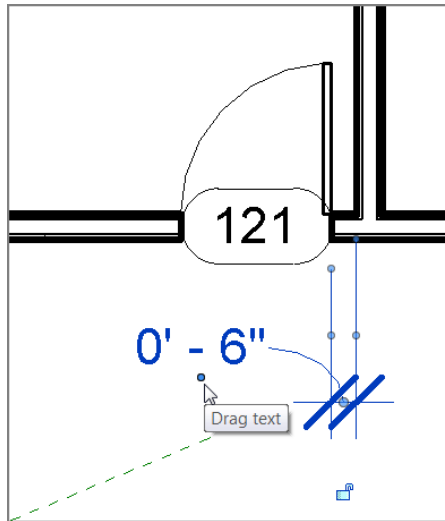

FIGURE 5.40: By grip-editing the text, you can slide it to a cleaner location. Revit automatically places a leader from the text to the dimension line.
8. There is a blue grip just underneath the text. Pick the grip, and move the text out from between the extension lines, as shown in Figure 5.40. Revit places a *leader* (an arrow line extending from the model to your text) in the text.